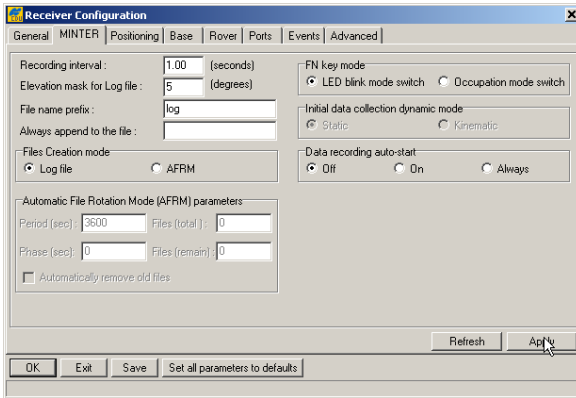

Figure 3-31. Receiver Configuration – MINTER Tab
5. Click **Configuration ▶ Receiver**, and then click the **MINTER** tab. Set the following parameters, and click **Apply** (Figure 3-31). See the following pages for descriptions of these parameters.